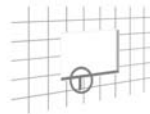

Figure 5
2. Make sure there is a route for the required cables to be connected between the TV and your AV sources e.g. DVD player (figure 5)